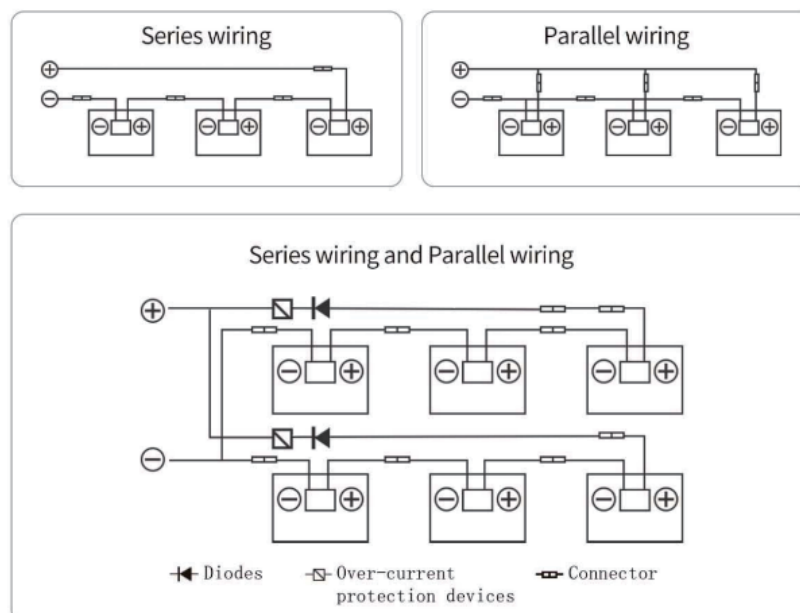

Figure 3
- Voltages are additive when modules are connected directly in series, and modules currents are additive when modules are connected in parallel, as illustrated in Figure3. Modules with different electrical characteristics must not be connected directly in series. If quantity of parallel connection is more than 2, there must be an overcurrent protection device on each string of module.